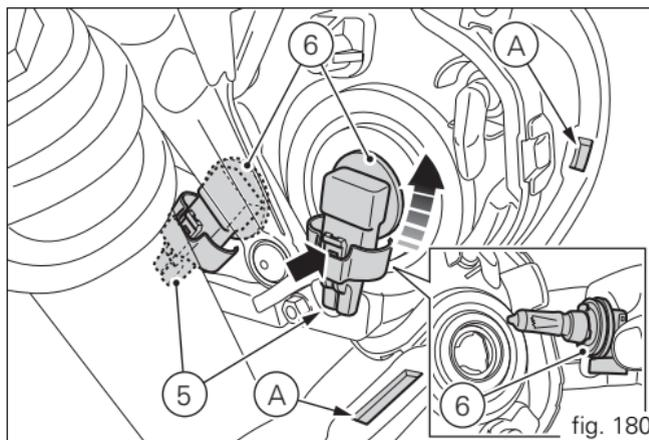
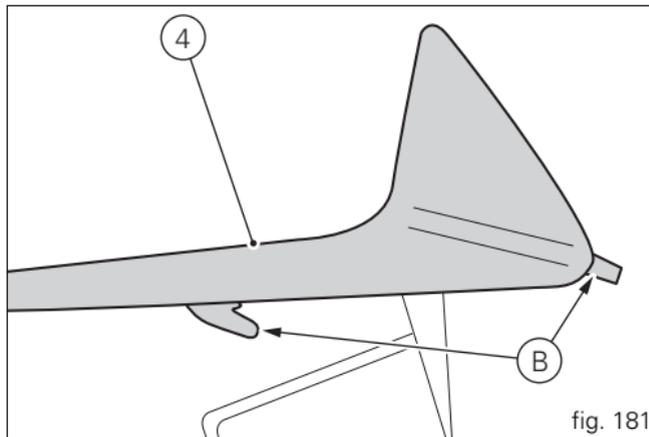

fig. 180
fig. 181
Remove the panel (4), lifting the rear part to unhook the tabs from the slots (A, fig. 180) in the headlight fairing. Detach the connector (5) from the bulb holder (6). Turn the bulb holder with the burnt-out bulb anticlockwise and remove it. Replace the bulb with an identical one.
Reconnect the connector (5) and refit the structures that were removed being careful to insert the tabs (B, fig. 181) into the slots (A, fig. 180) made in the headlight fairing.